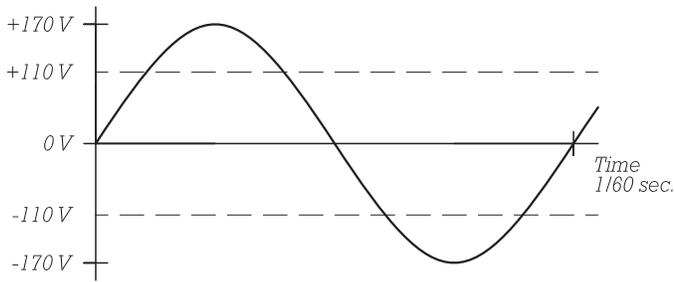

FIGURE 16.2
The *alternating-current* (AC) system used to power buildings is not as simple as direct current. Alternating current in North America is driven by voltage that fluctuates between the positive and the negative at a rate of 60 cycles per second (the rate varies among different regions of the world) (Figure 16.2). The reason we use alternating current is that its voltage is easily increased or decreased with transformers. Electricity is transmitted most efficiently over long distances by wiring at as high a voltage and as low an amperage as possible. Thus, high voltage originating at the power plant can pass through long transmission lines with minimal